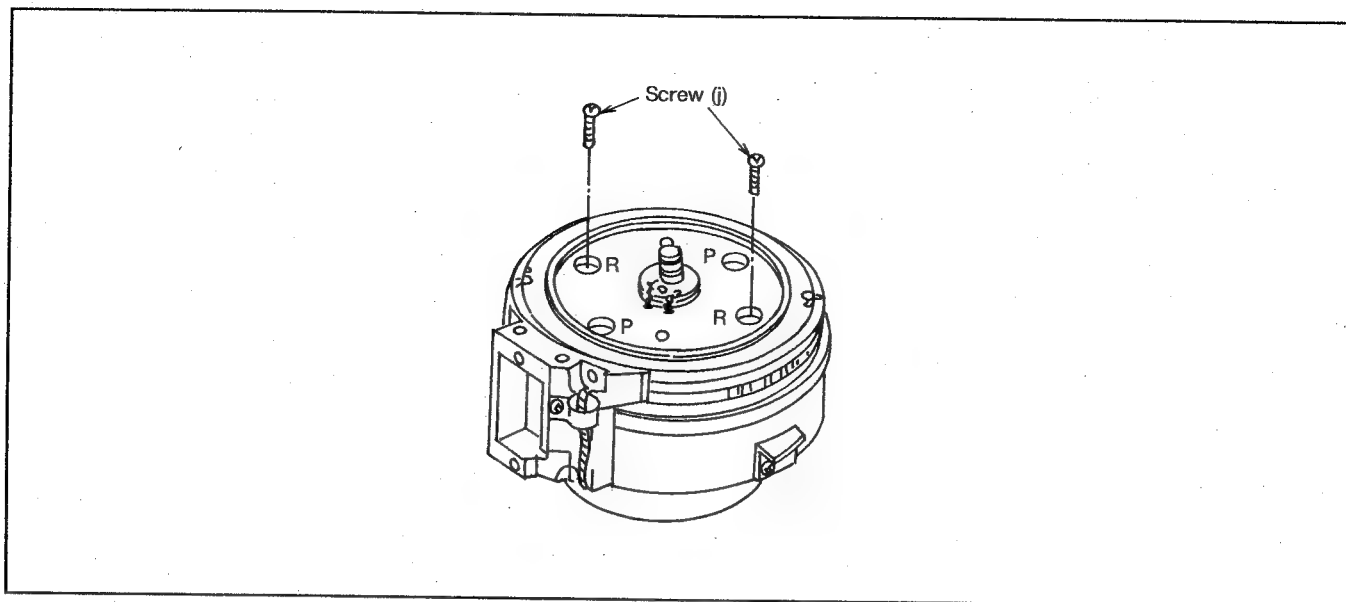

Fig. 7-8-1
- 7-8. Insert 2 screws to Hole (R) of the Center Drum Unit and tighten securely as shown in figure 7-8-1.